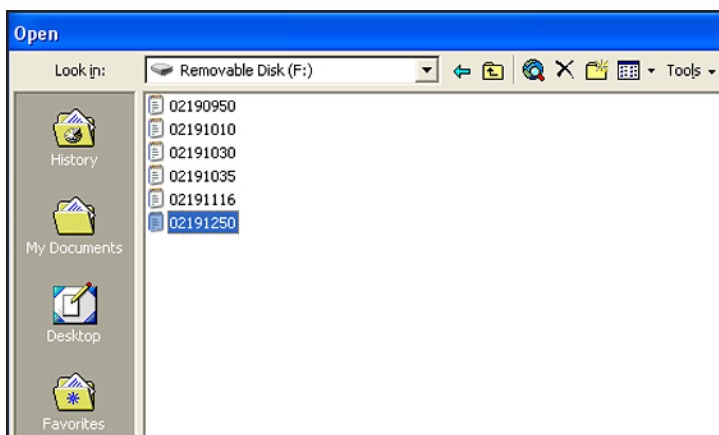

Figure 58: Selecting the Log File to Open
5. Click on the name of the desired log file (see *Figure 58* below).